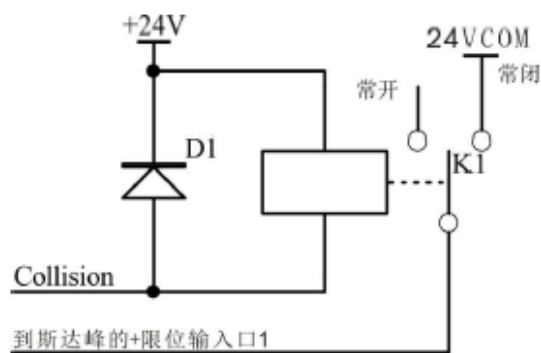

Fig 4-3: connection on the SF for the stop when collision
- 2、 This CNC controller is without collision input, if you need the stop function when collision, please according to SF instruction Fig 4-3 shows: